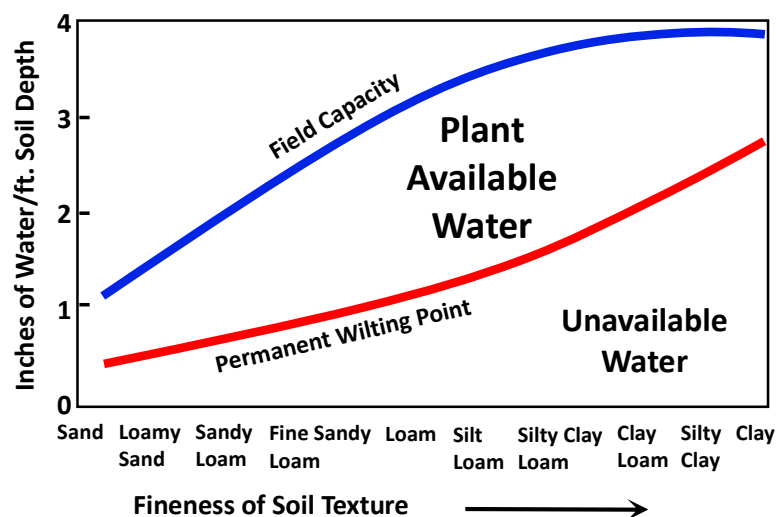

Figure 1. Plant Available Chart, adapted from Ohio Agronomy Guide, 14th Ed, Bulletin 472-05³
However, plants often fail before established. The main reason is that plants undergo constant stresses like flooding and drought conditions. By design, green infrastructures are flooded during storms. Also by design, the growth media drain and dry out quickly between precipitation events, so to make room for next storm and to prevent overwatering issues. To achieve this, very porous growth media are used in these systems. As a result, soil moisture changes quickly from soaking wet to bone-dry in short period. The extreme variations in soil moisture makes it very hard for any plants to survive. If we look at the fundamental aspect of this program, it is the limited plant available water (PAW), defined as the water between field capacity (FC) and permanent wilting point (PWP), as illustrated in Figure 1 for different types of soils. In sandy soils, which is the same or similar to the media used in GSIs, the plant available water is very low.